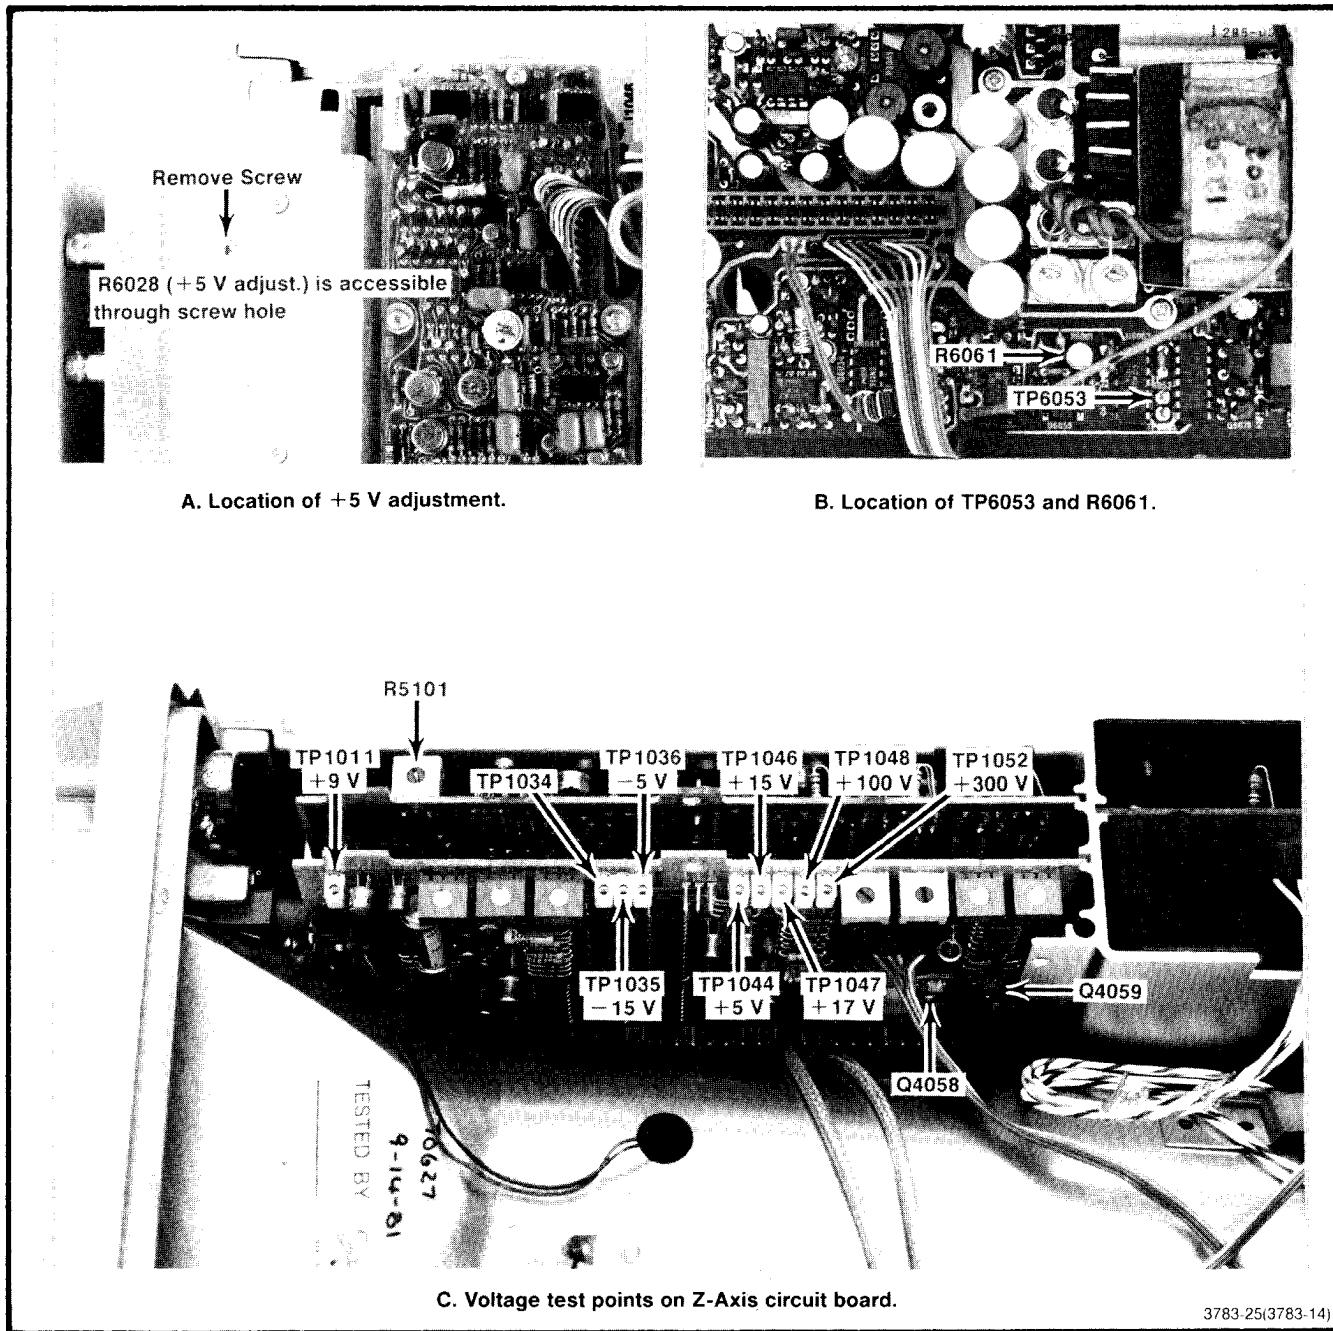

Fig. 3-22. Low voltage power supply adjustments and test point locations.
d. Connect a test oscilloscope probe with a deflection sensitivity of 5 V/div and sweep rate of 10 μ s/div to TP6053 (Fig. 3-22). Note the output waveform of the oscillator U6059. Amplitude should be approximately 10 V.
1) Using a voltmeter on the 20 volt range, measure and record the collector voltage of Q4058 or Q4059 (Fig. 3-22) on the Z-Axis board.